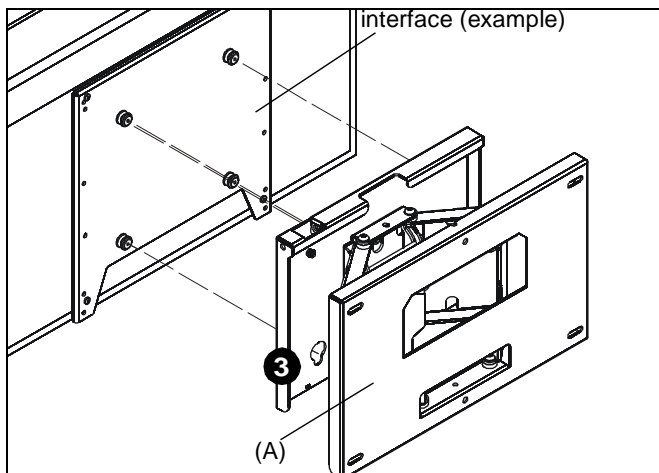

Figure 3
3. Insert mounting buttons on display interface into four teardrop holes on faceplate. (See Figure 3)